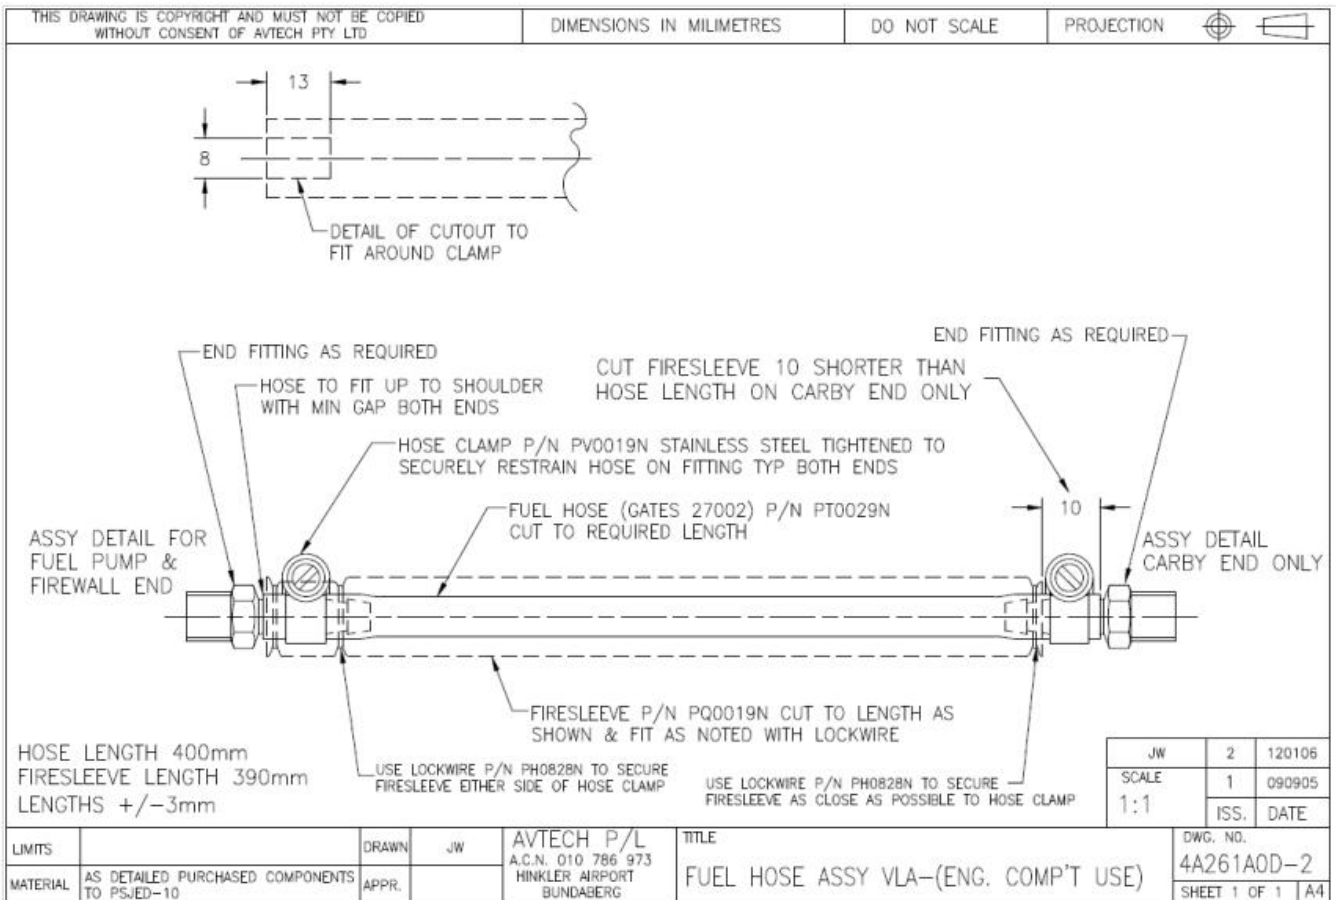

Figure 92 – Fuel Hose Assy – Engine Bay
- Where fire-sleeve is used ensure it is fitted per Figure 92.